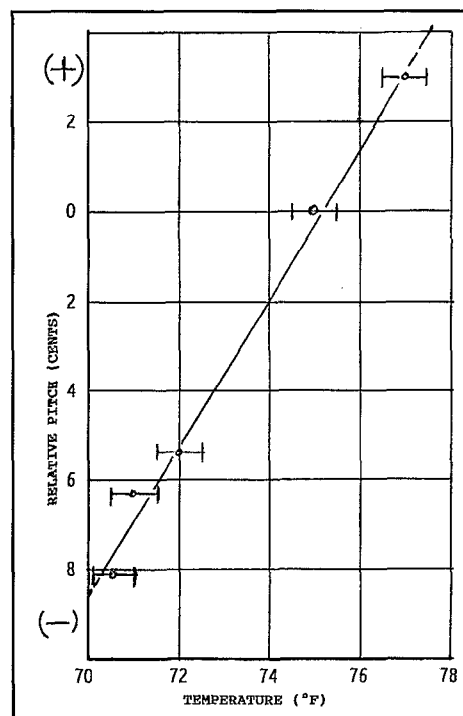

Figure 3
Figure 3 is a graph showing the measured pitch change as a function of temperature at a wind pressure of four inches of water. The error bars in this graph indicate the limits of accuracy (plus or minus 0.5°F) in reading the common indoor thermometer. Absolute accuracy is not crucial here because it is change in temperature that we are interested in. According to the diagonal line, which represents the average, the relative pitch would be -7.7 cents at 70.5° F, and +3.0 cents at 77° F for a change of 10.7 cents total over a 6.5° F temperature span, or +1.65 cents per degree (F) temperature rise.